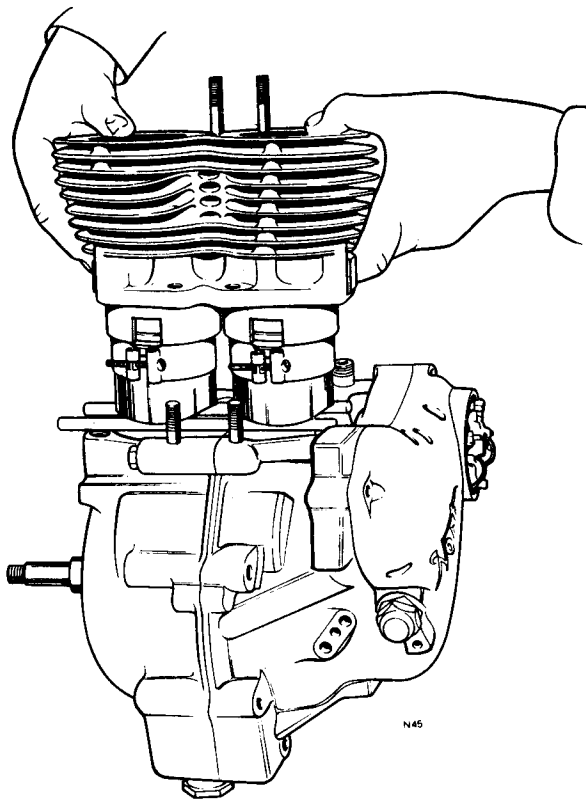

Fig. C42 Fitting cylinder over pistons. Note piston supporting bars and ring clamps in use
- 11 Offer the cylinder over the pistons as shown in Fig. C42, pushing the cylinder down to slide the ring clamps down quickly. The pistons are now entered in the cylinder bores.